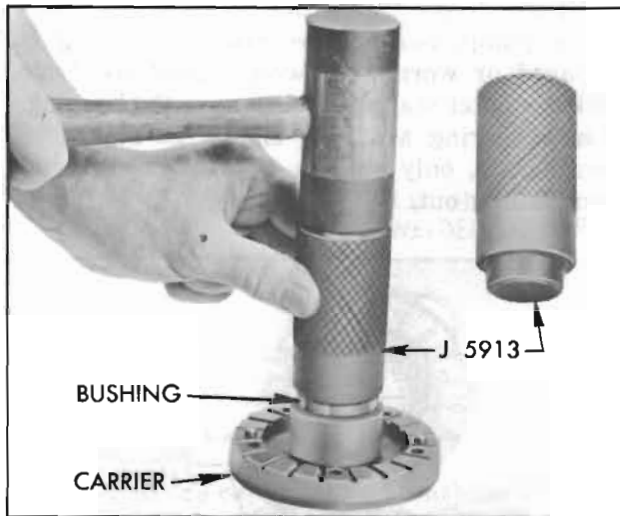

Figure 5-50—Installing Bushing in Blade Carrier
7. Inspect piston oil seal ring and bore of blade carrier for scoring or wear. If bushings in carrier are worn they should be replaced, using Installer J 5913 to properly locate new bushings. See Figure 5-50.